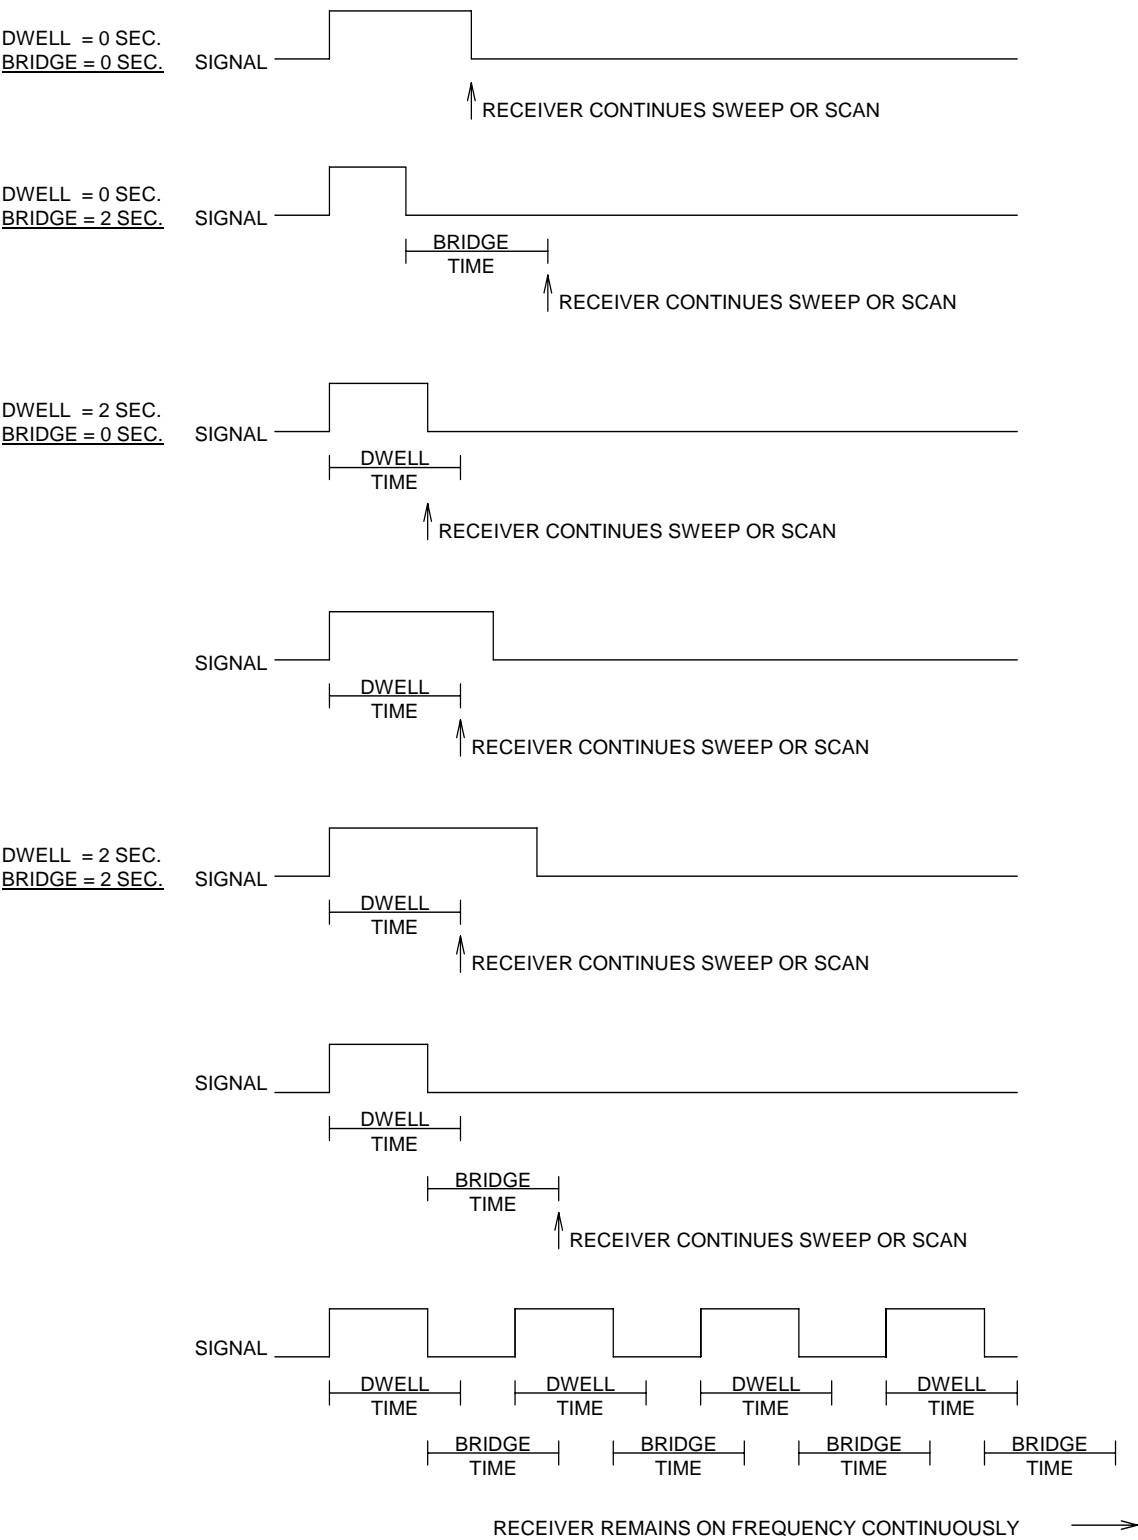

Figure 3-8 Dwell Time/Bridge Time Relationship.
3-7.4.4 Dwell. The dwell time setting is the time duration (in seconds) the receiver remains on a channel or frequency that has exceeded the squelch level. This function is only used in the scan or sweep function. If the dwell time is set to zero, and the signal exceeds the squelch level, the receiver will stay on this channel or frequency until the signal falls below the squelch level. (See figure 3-8)
3-7.4.5 Bridge. (See figure 3-8.) The bridge time function may be used to monitor intermittent signals. This function supplements the dwell time function by causing the receiver to stay on frequency longer than the preset dwell time during sweep or scan. The bridge timer is activated during dwell time if a signal is present and then goes below the preset squelch level. If the signal returns before bridge timeout, dwell time is restarted from zero. The receiver stays on a frequency where intermittent signals are found until; (1) the signal stays on longer than the dwell time setting; or (2) the signal stays off longer than the bridge time setting. If bridge time is set to zero, the bridge timer is disabled.